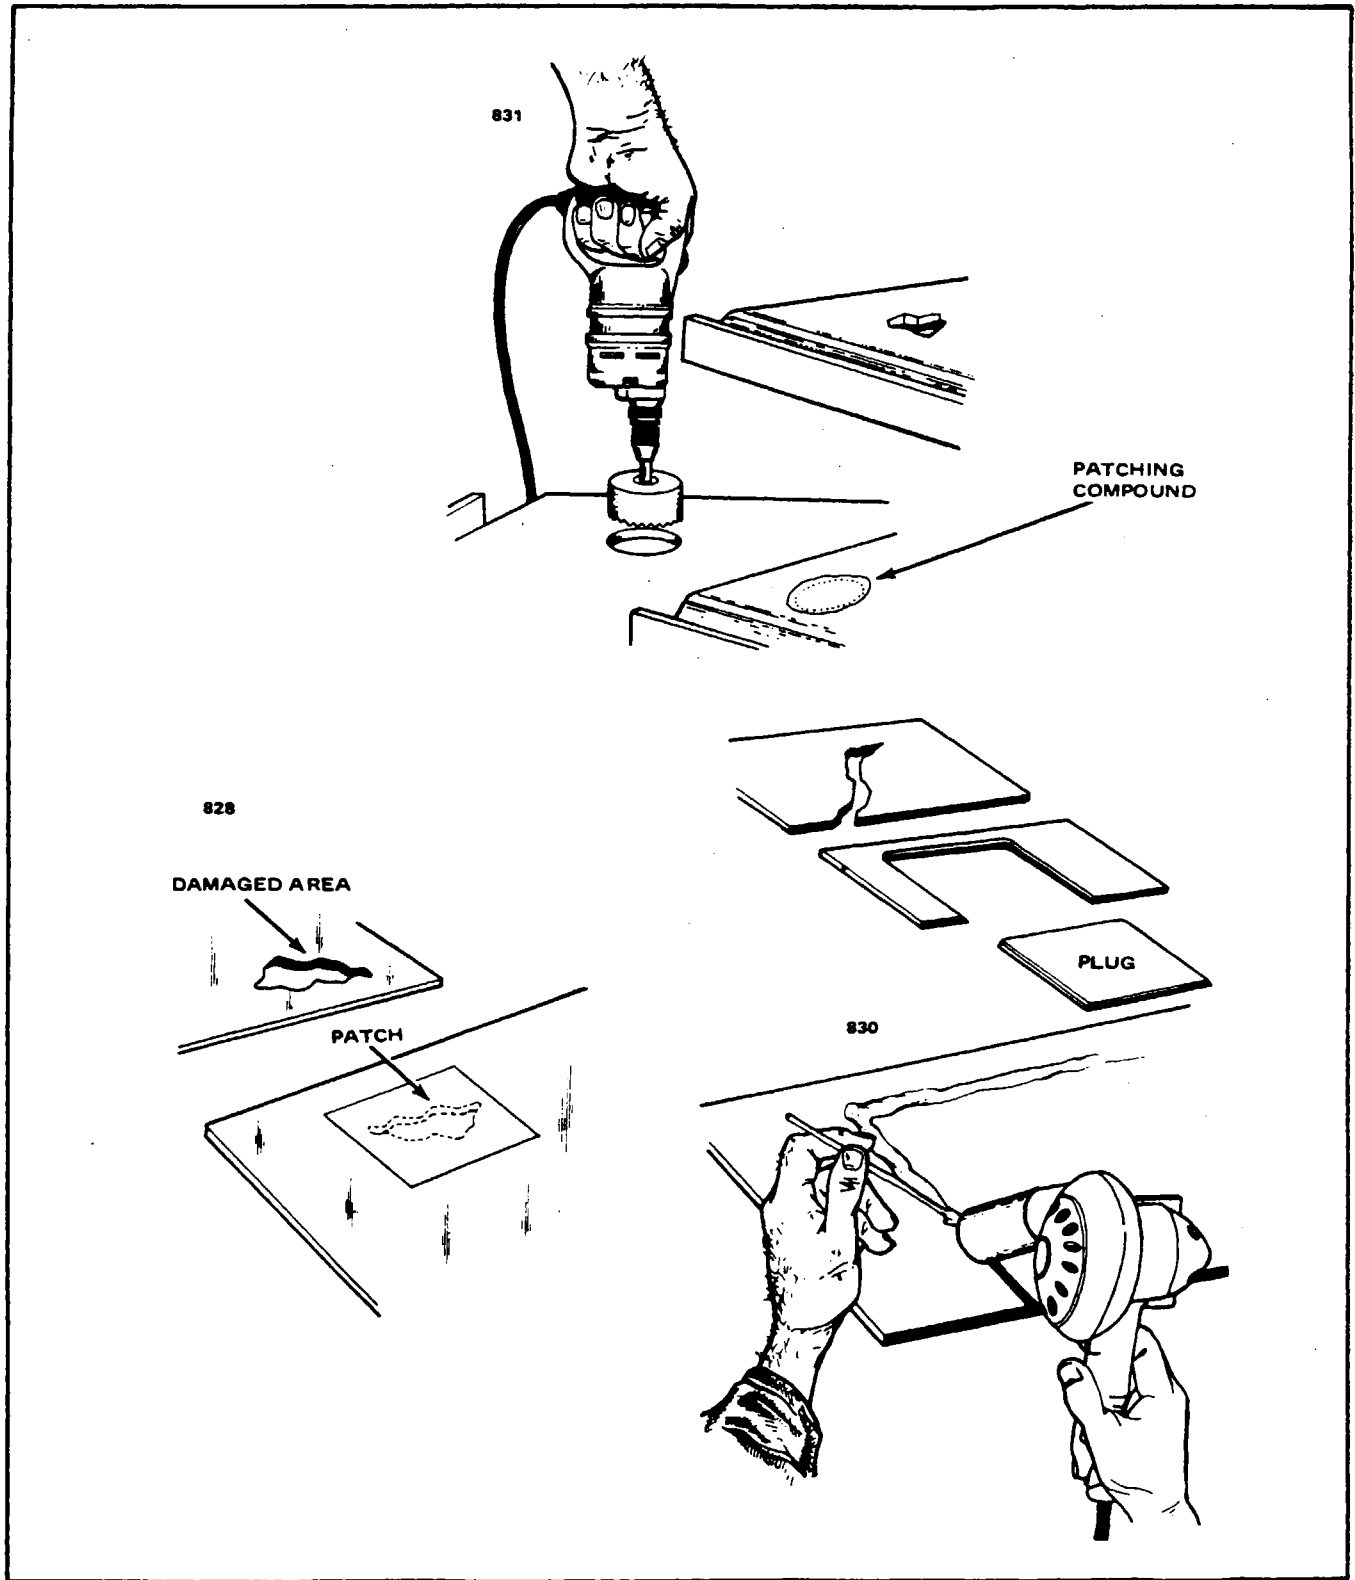

Figure 4-15. Various Repairs.
- e. **Repairing Major Damage:** (Larger than 1 inch in diameter.) (Refer to Figure 4-15.)